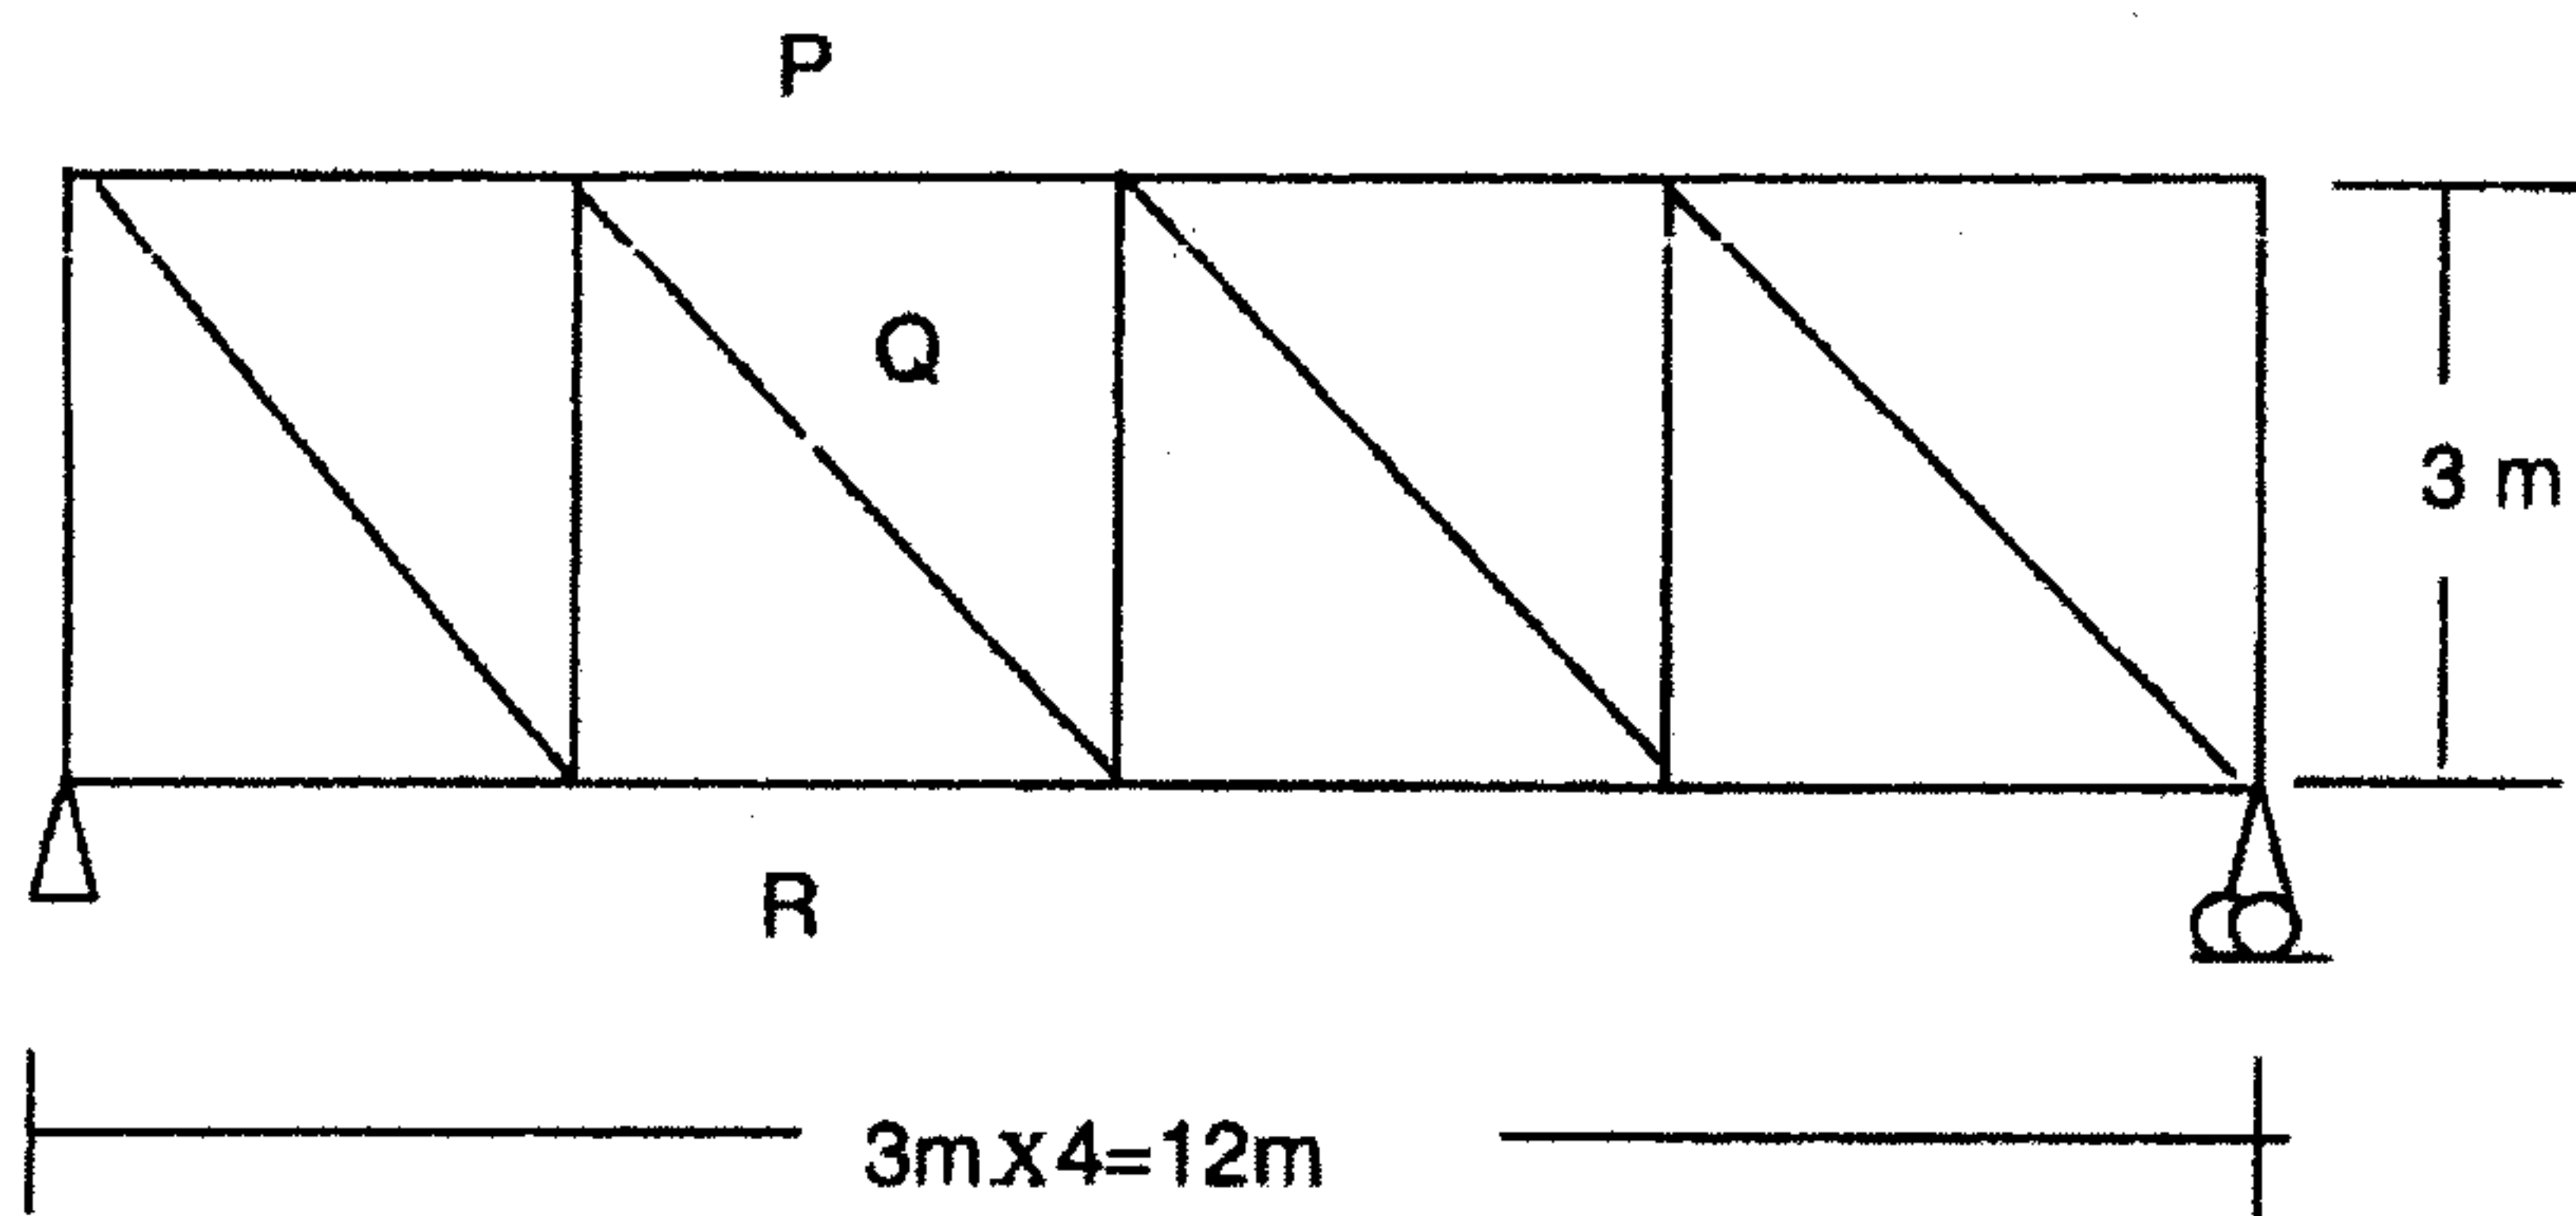

Fig. 3
- 14. Draw influence line diagram for the forces in members P, Q and R of the truss shown in Fig. 3 and determine maximum force in the members due to u.d.l. of intensity  $w/m$  length, longer than the span. 20